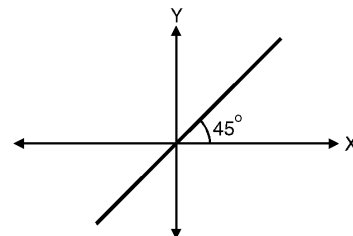

Fig. 1.11.4 : Lissajous pattern for $\theta = 0^\circ$
- v. If the two sine waves are of same frequency are in phase, then the Lissajous pattern will be a diagonal line making an angle of 45° with the X axis. Fig. 1.11.4 illustrates this.